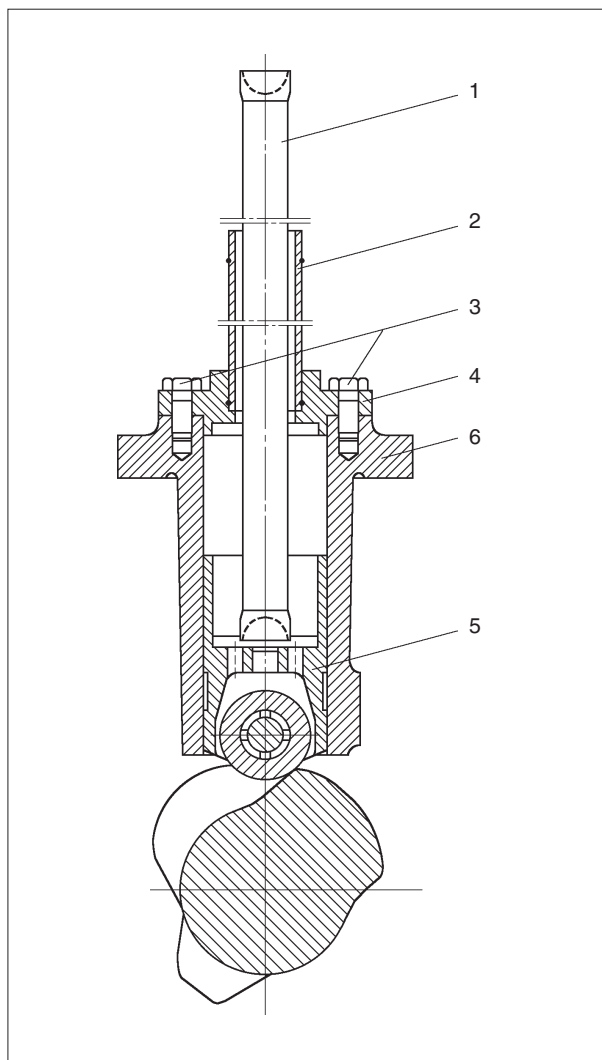

Fig. 1.
- 3) Remove the push rods (1), see fig. 1.